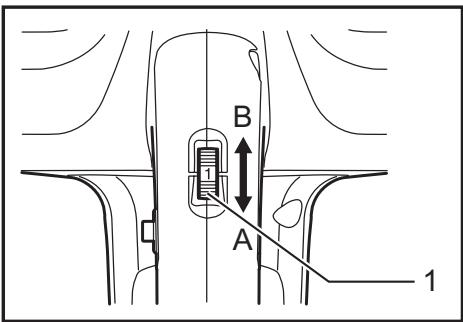

Fig.2
► Fig.2: 1. Air volume adjusting dial